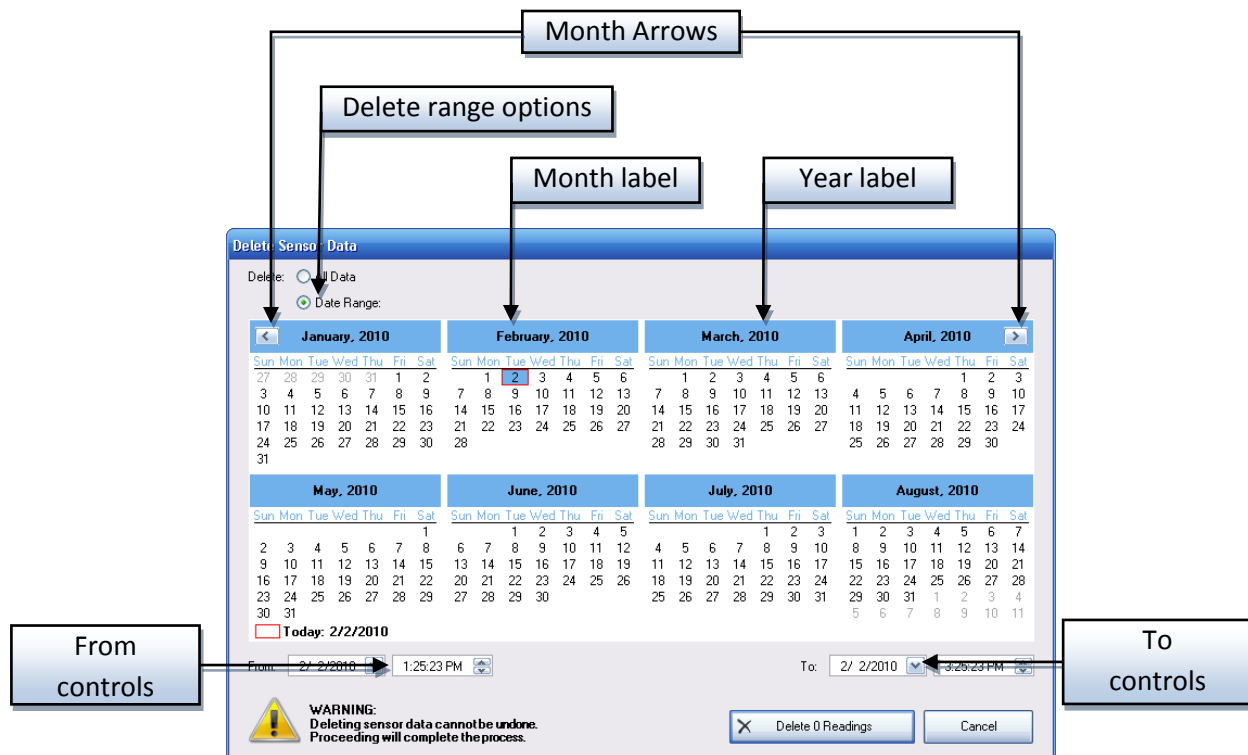

Figure 7-5 - Delete Sensor Data dialog
3. Press DEL on the keyboard **or** right-click on one of the sensors and choose *Delete → Data...* This will present the *Delete Sensor Data* dialog (see FIGURE 7-5)
- a. All data (click the *All Data* radio button in the delete range options in FIGURE 7-5)
- b. Date range (click the *Date Range* radio button in the delete range options in FIGURE 7-5)
1. Navigate to the date range's start year by clicking on one of the year labels (see FIGURE 7-5) and selecting the date range's start year from the drop-down box
2. Navigate to the date range's start month using the month arrows or by clicking on one of the month labels (see FIGURE 7-5) and selecting the start month from the drop-down box
1. Enter the range's start date/time in the *From controls* (see FIGURE 7-5) using the keyboard and calendar drop-down
2. Enter the range's end date/time in the *To controls* (see FIGURE 7-5) using the keyboard and calendar drop-down